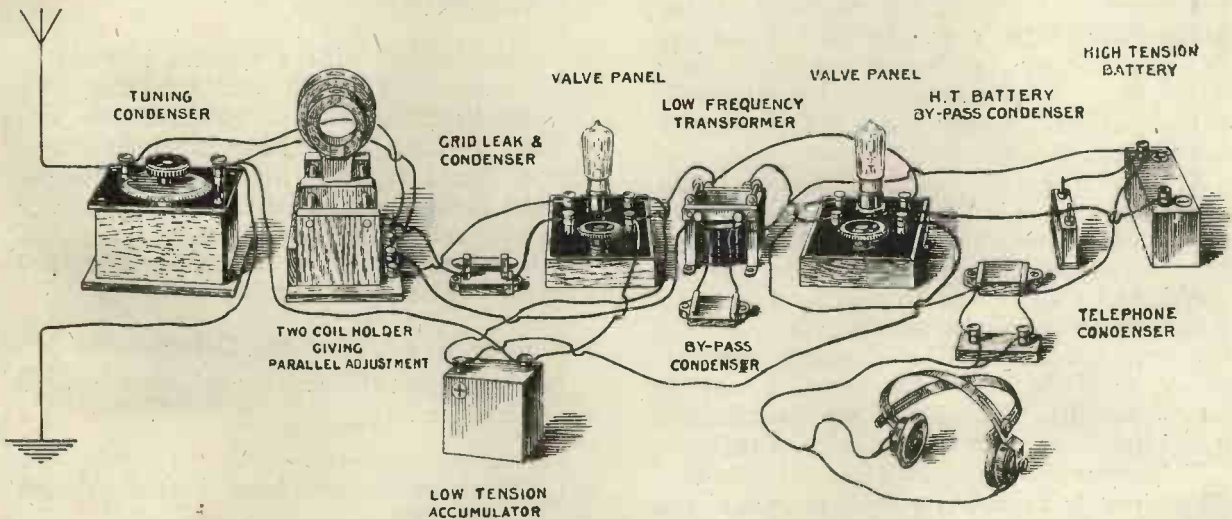
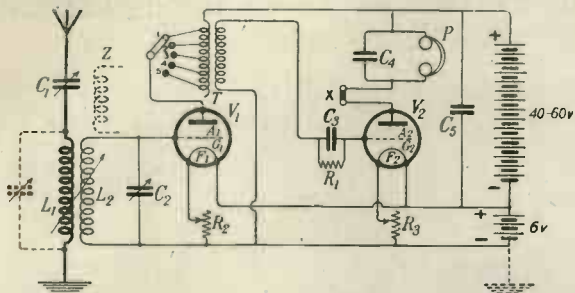

Fig. 2. A suitable arrangement of the components of the low-frequency amplifying set.
Fig. 4. A two-valve circuit employing H.F. amplification; x, shorting plug for reaction coil; z, optional reaction coil.
**Grid Condenser and Leak ( $C_2$ ) and ( $R_1$ ).**—This condenser should be well insulated, and a very efficient type of self-contained grid condenser and leak is shown in Fig. 2, which also has the merits of being small in dimensions and reasonable in price.
Fig. 2 suggests a method of arranging the components on the bench, and in passing it should be noted that several of the leads shown in the drawing are longer than is the actual case when wired up. They are shown thus in order to simplify the drawing. Finally, the wiring itself; various experimenters employ various methods—some use bare wire covered with insulated sleeving, some bare wire only, and some untwisted flex. The first method—namely, bare copper wire covered with insulated sleeving—has much to commend it, especially as the sleeving can be obtained in a variety of colours, thus enabling each circuit to have its own colour, which makes it easily distinguished.
If it be desired to increase the range of the station, the circuit shown in Fig. 4 can be used. Now in this circuit the first valve ( $V_1$ ) functions as an amplifier of the incoming radio-frequency signals, and passes this amplified current through the high-frequency transformer (T), from whence it is impressed on the grid of the second valve ( $V_2$ ),
Now the chief differences to be observed between the two circuits are: firstly, that in the high-frequency-detector two-valve set shown in Fig. 4 we shall need an air-cored radio-frequency transformer instead of the iron-cored audio-frequency one shown in Fig. 2; secondly, we can now use the two-coil holder for a double circuit tuner—that is to say, one which employs an aerial circuit inductively coupled to a closed secondary circuit, thus obtaining greater selectivity. Should the experimenter desire to use reaction on this circuit, a three-coil holder must be used, the arrangement being that the centre fixed coil is the secondary tuning coil, whilst